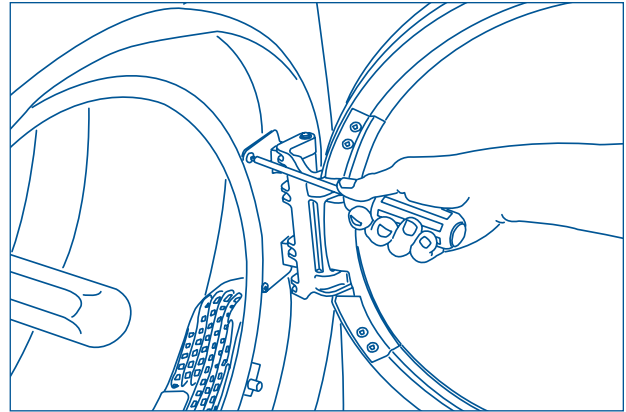

Figure 4-11.
2. Using a #2 square bit screwdriver, with the hinge in open position, extract two short, course thread, panhead screws from hinge plate. (See Figure 4-11)